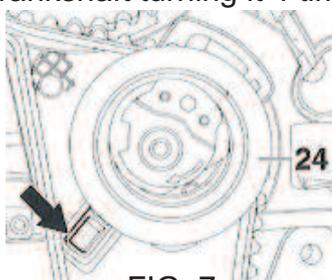

FIG. 7
- ② Mount the timing belt starting at crankshaft pulley. Make sure the tensioner is placed correctly (FIG. 7). After, turn the tensioner until the reference marks are aligned and tighten the nut.
- ③ Turn camshaft and fuel injection pump pulleys counterclockwise until they are fully and completely tensed and tighten the bolts. After, remove the specific tools and rotate the crankshaft turning it 4 times. Mount the specific tools again to check the correct assembly.